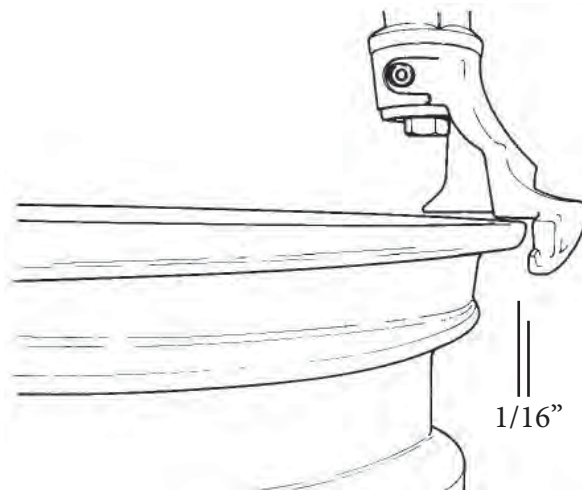

Fig. 4.1-4
**E.** Gently position the mount/demount head in contact with the rim edge and lock it into place: the tool automatically moves away from the rim edge vertically and horizontally, approximately 1/16" (2mm); this is necessary to avoid any rim contact during the changing process. (Fig. 4.1-4).